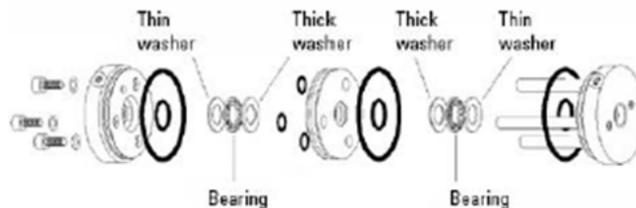
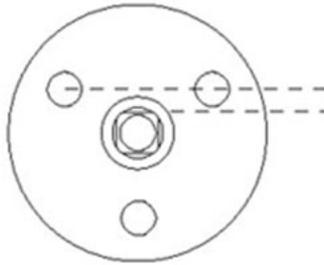

Figure D-9. Locations of O-Rings
Figure D-11. Correct alignment of O-Ring plate
3. Place the washers and bearing in the male end cap (thin washers in first, as shown Figure D-9). One of the flats on the drive shaft lines up with a line drawn between two of the holes in the O-Ring plate (Figure D-11).